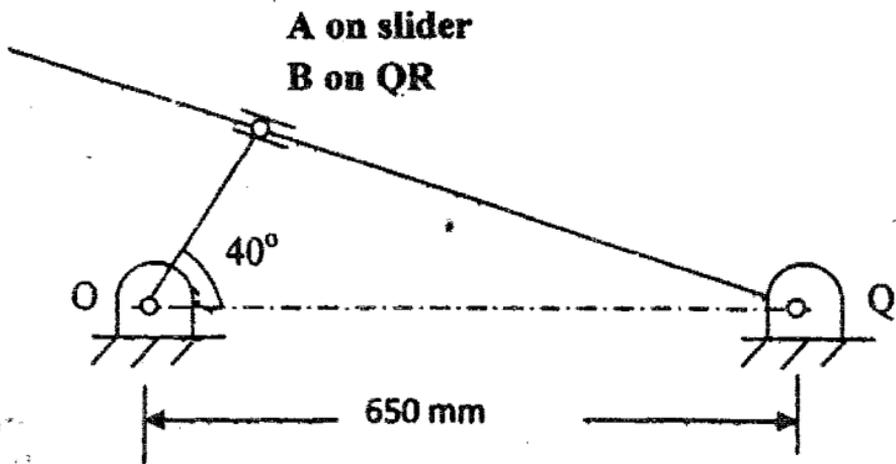

Fig. 2
(c) For the inverted slider crank mechanism shown in Fig. 2, find the angular acceleration of link QR. The crank OA is 300 mm long and rotates at 20 rad/s in clockwise direction. (10)